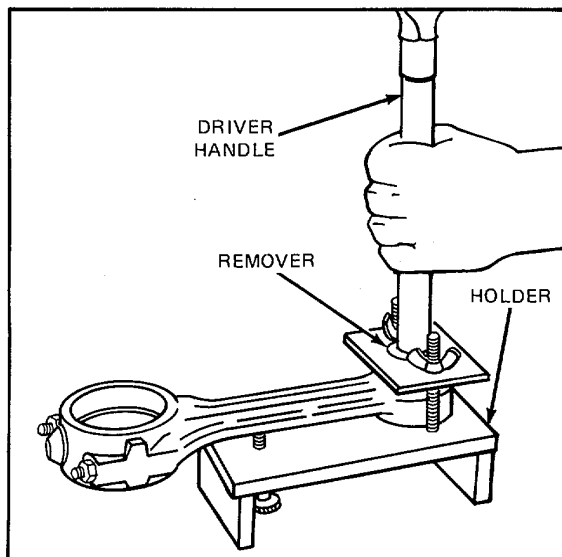

Figure 4. Removing or Installing Bushings
1. Clamp the upper end of the connecting rod in holder J 7632 (Fig. 4) so that the bore in the bushings is aligned with the hole in the base of the holder.
1. Clamp the upper end of the connecting rod assembly in holder J 7632 so that the bore for the bushings aligns with the hole in the base of the tool (Fig. 4).